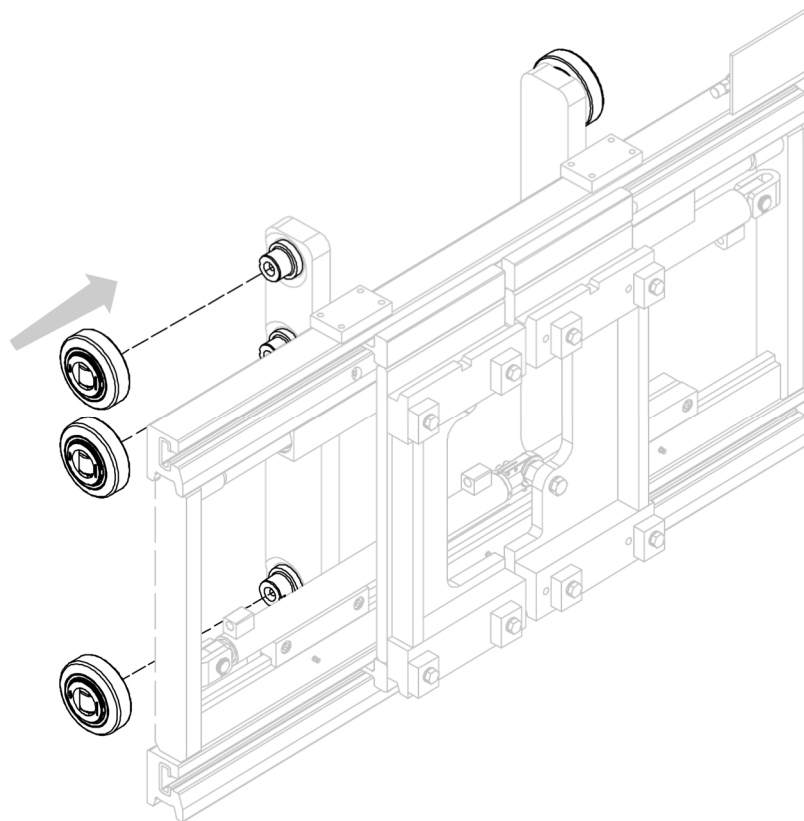

Figure 2
4. Couple the rollers/bearings (not always supplied) to the pins on the brackets of the equipment (see Figure 2. In this image, as in the following ones, bearings, brackets and masts will be purely indicative, with the sole purpose of showing the correct assembly of the equipment, as they may vary depending on type).